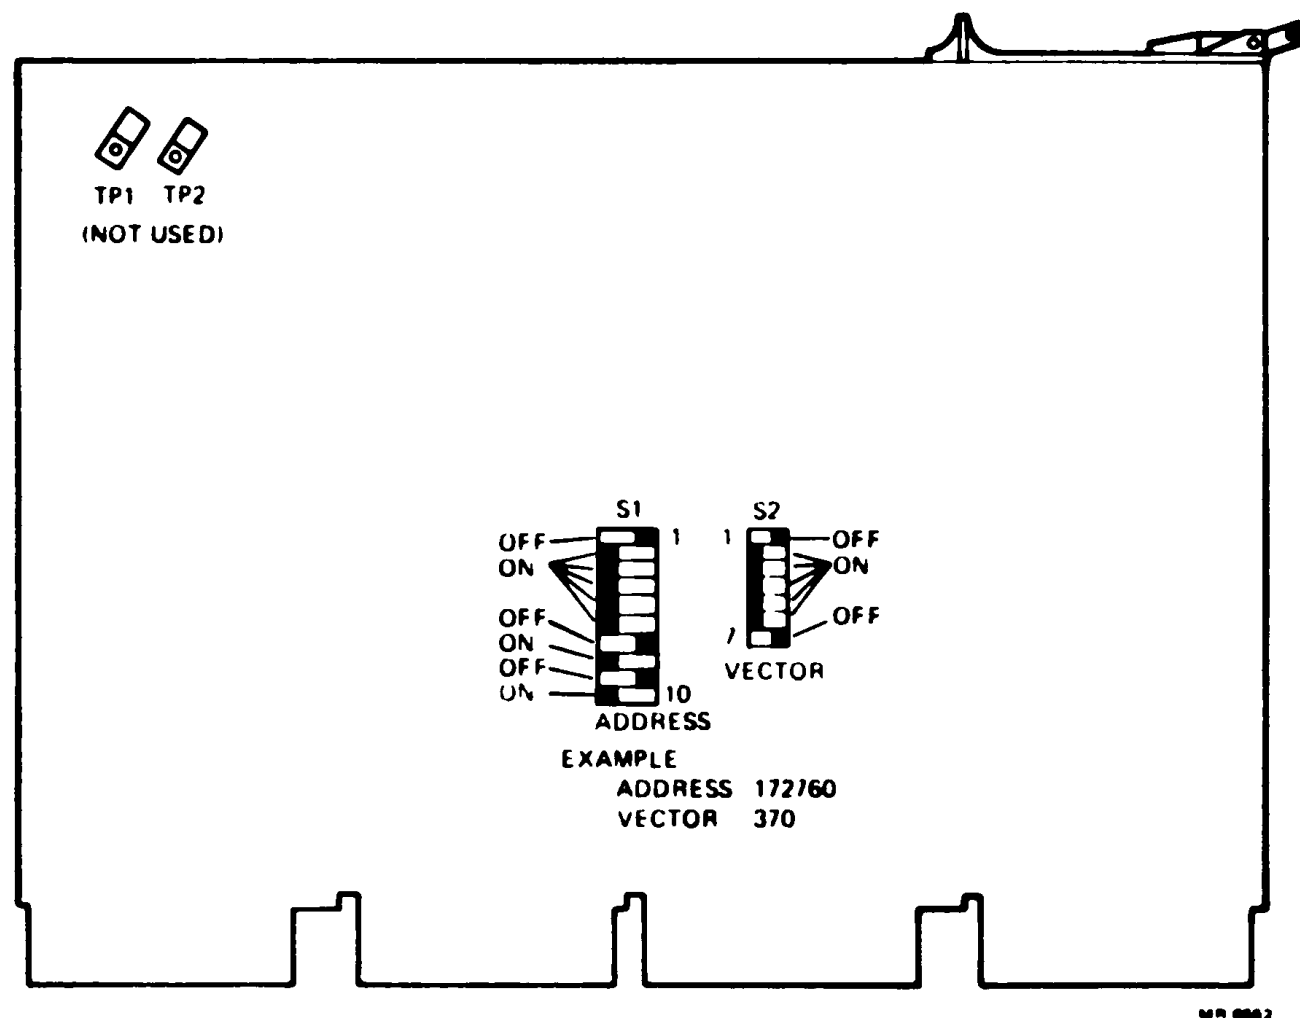

Figure 3-7 DMA Module (M8026)
Figure 3-7 shows the physical layout of the DMA module. This module communicates directly with the LSI-11 bus. Two fast-on tabs (TP1 and TP2) can be used to connect the CLK and the Schmitt trigger (ST), respectively; however, these tabs are not used on new NCV11 installations.
NCV11 Address and Vector Switches Two switch packs on the DMA module are shown in Figure 3-7. S1 is for selecting the address of the NCV11. S2 is for selecting the NCV11's vector. A switch in the **on** position indicates a 1. S1 enables an address between 160020 and 177760 (in increments of 20). The recommended address for the NCV11 is 172760, as shown in Figure 3-8. S2 enables the setting of a vector between 010 and 770. The standard vector for the NCV11 is 370, as shown in Figure 3-9.